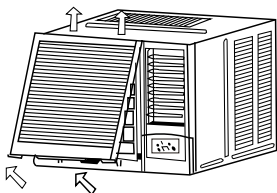

Fig. 1
- 1 Hold the slot under the front panel, then lift it up and outwards, and remove the front panel (See Fig.1).